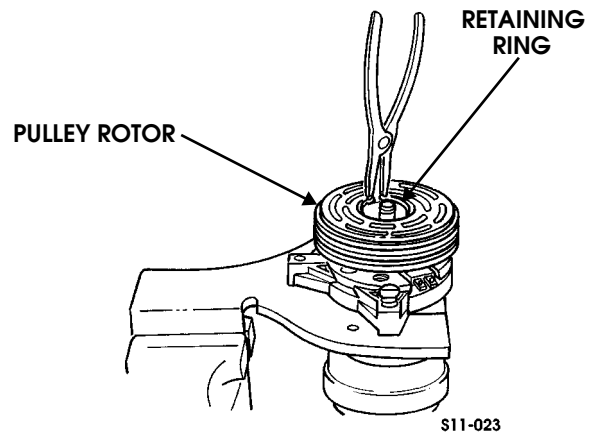

Figure 11-52: Retaining Ring
- Using snapping pliers, remove retaining ring (Figure 11-52).